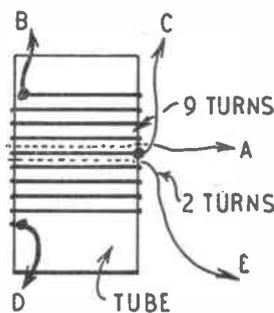
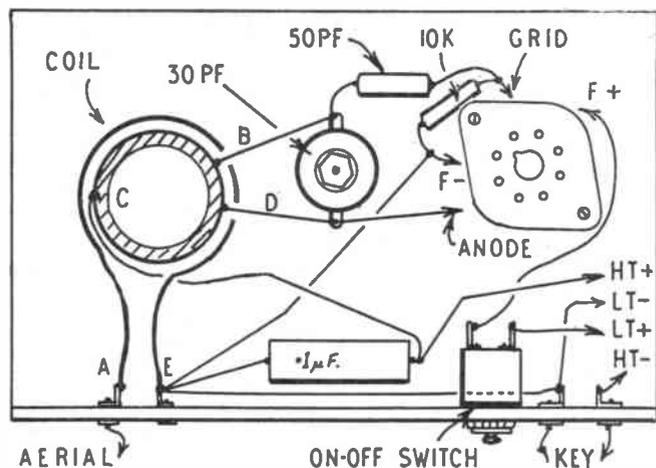
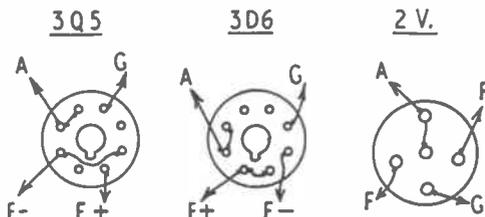

Fig. 2—Coil details
Fig. 3—Wiring plan
Fig. 4—Pin connections
The coil is wound with 20 S.W.G. copper wire, nine turns being used, as in Fig. 2. Turns are so spaced that this winding occupies 1½ins. on the former. The ends, (B) and (D) in Fig. 2, are made fast by passing them through pairs of
The coupling winding is now put on, consisting of two turns of insulated flex. These two turns are wound in the spaces adjoining the centre turn of the 9-turn winding, as shown by the dotted lines in Fig. 2. A touch of adhesive can be used to prevent the two turns coming loose.
Dimensions are unimportant, but a small baseboard about 4ins. by 6ins. will easily hold the parts. An insulated strip or panel is required at the front, to hold aerial and key tags or terminals, and switch, as shown in Fig. 3.
Referring to Figs. 2 and 3, (B) and (D) denote the beginning and end of the 9-turn winding, and go to the tags on the trimmer. (C) is the centre-tap, and is taken to the  $\cdot 1\mu\text{F}$  condenser, and H.T. positive. The coupling winding goes to aerial and earth (L.T. negative) and is shown in the form of a single loop away from the coil, in Fig. 3, in the interests of clarity. The coil can be held in place by pushing it upon a cork or disc of wood screwed to the baseboard.
There are only four leads to the valveholder — grid, anode, filament negative, and filament positive, as in Fig. 3. However, actual pin connections depend on the valve to be fitted. Fig. 4 gives pin connections for the 3Q5 and 3D6, viewing the valves from below. The remaining base is for any 2-volt pentode, tetrode, or triode, of the old 4-pin or 5-pin English type. (Triodes will not have the centre pin, but if this socket is wired, a pentode or tetrode can be inserted, instead of the triode, with-
The valveholder is chosen to suit the valve, being octal or 5-pin. The leads can most easily be soldered on before the holder is finally secured in place. Some of the holder sockets require connecting to others, as in Fig. 4. When wiring is finished, the holder is held down by long screws and  $\frac{1}{16}$  in. distance pieces, so that the sockets are just clear of the baseboard. It must be remembered that pin connections, for the octal-types, will not be correct if the valveholder is viewed from above.
The tags, terminals, or leads marked 'key' in Fig. 3 should be shorted. No